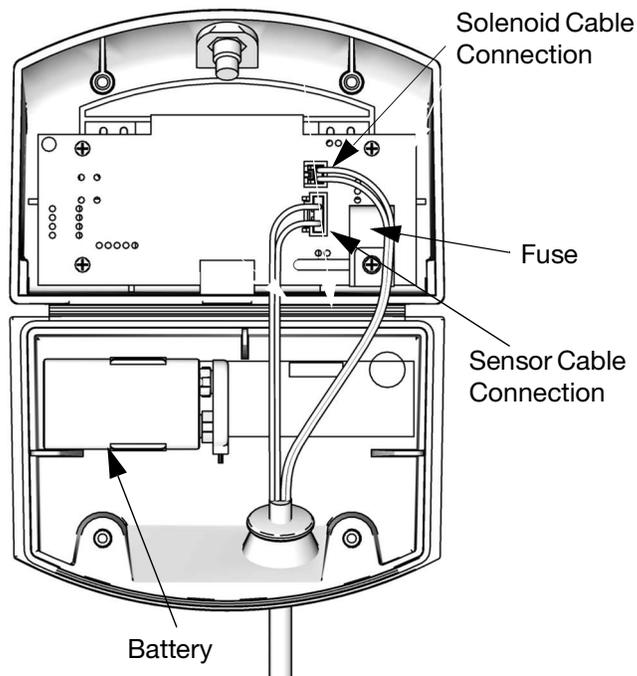

FIG. 35. DataTrak Battery and Fuse Location
5. Disconnect the used battery and replace with an approved battery. See FIG. 35.